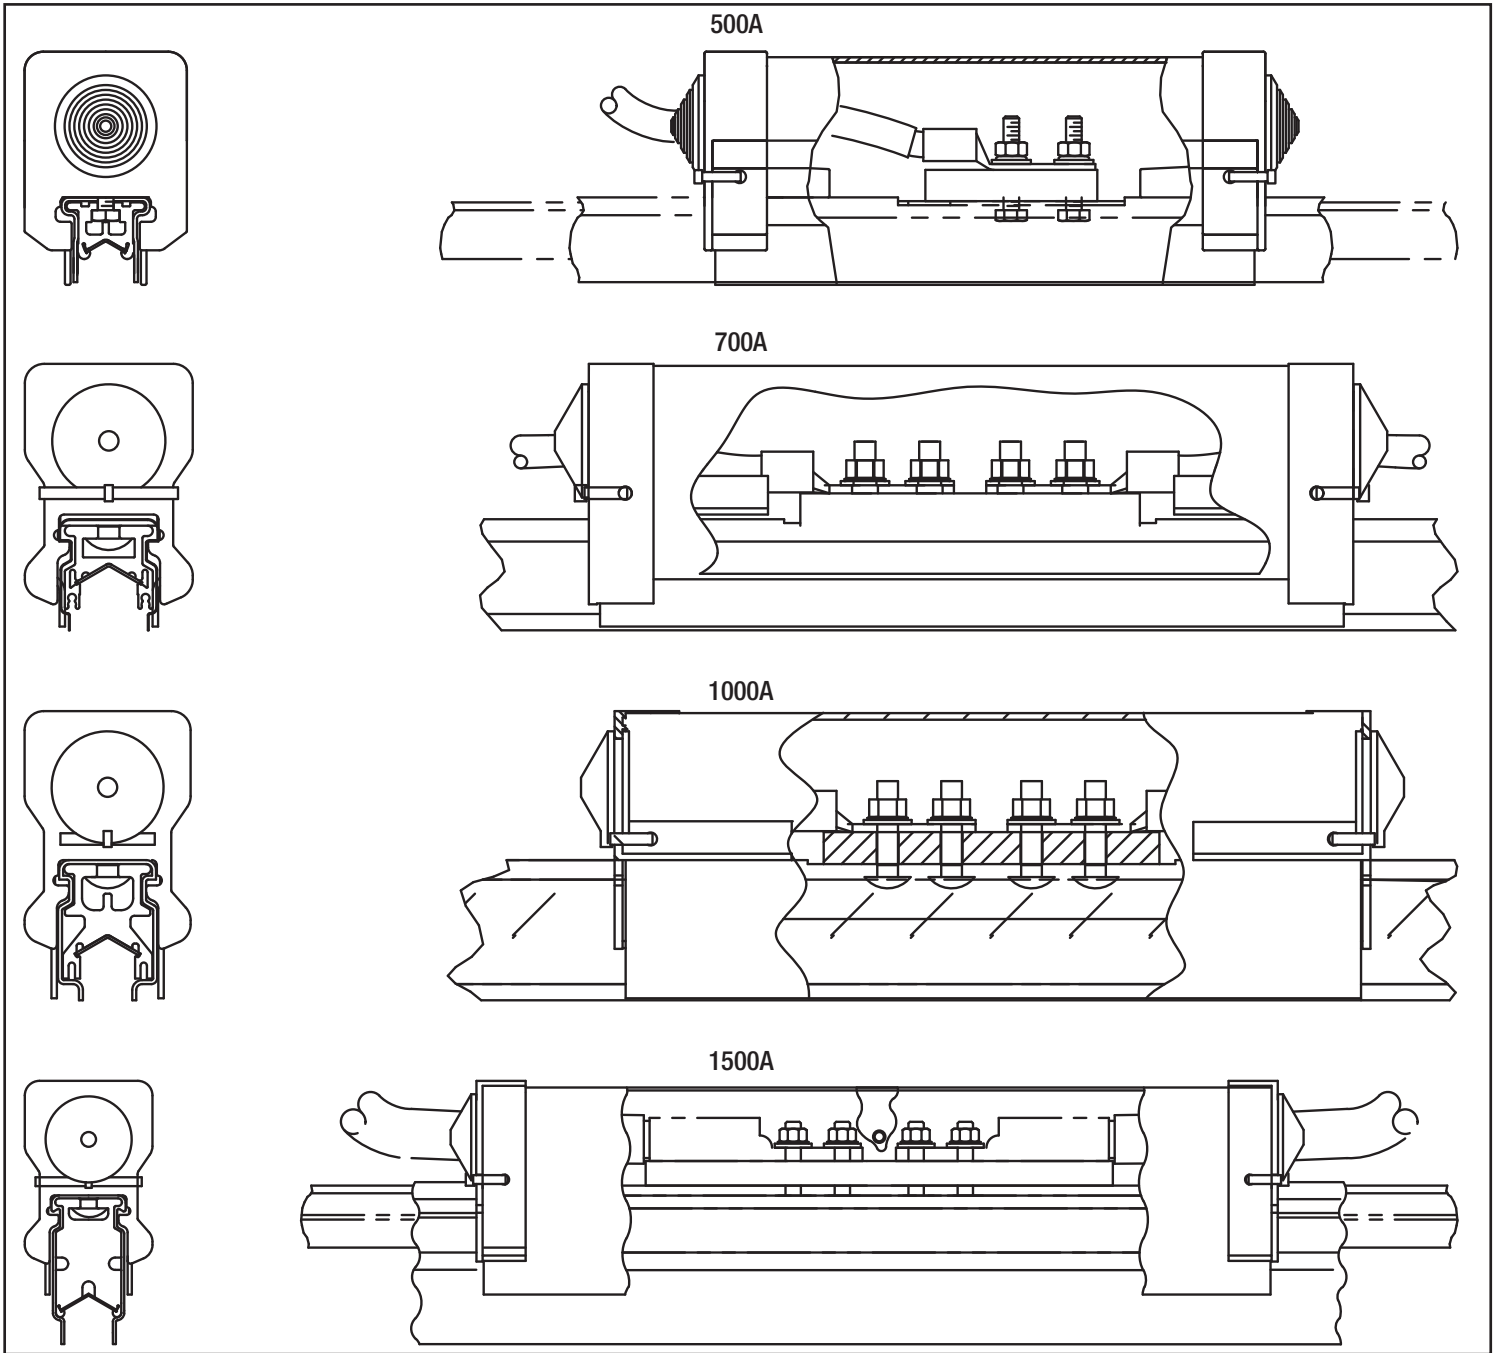

Figure 22-1 Power Feed Assemblies
- An example of a 500A power feed assembled can be seen on the in **Figure 22-1**.